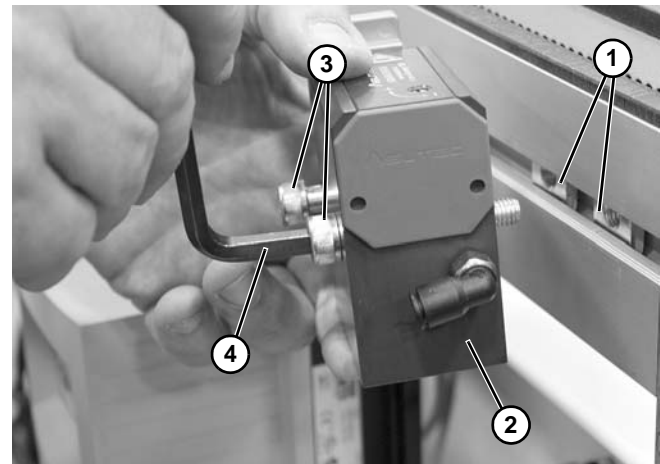

**Figure 2**
1. Place pallet (**Figure 2, item 1**) on conveyor belts (**Figure 2, item 2**).
2. Make sure that the bumpers (**Figure 2, item 3**) are facing in the direction of travel over the belts. Make sure that the roller pins (**Figure 2, item 4**) are towards the outside of the conveyor rail.